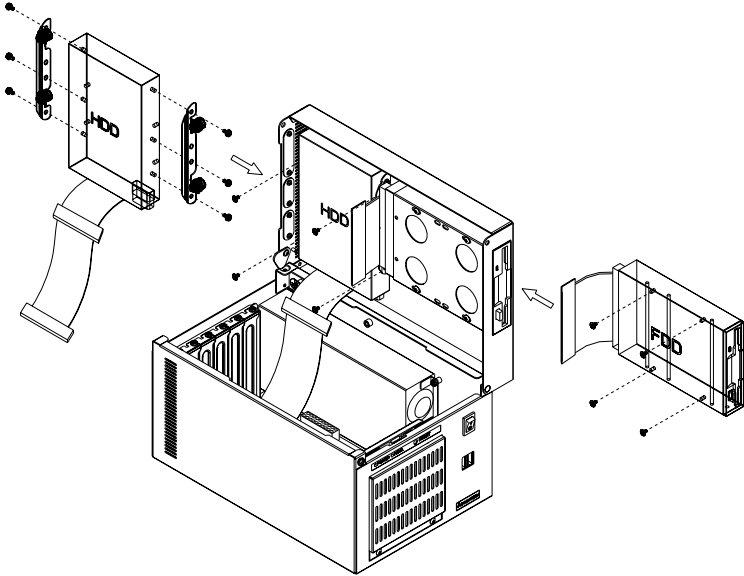

Figure 2.3: Installing drives
IPC-6806S accepts one floppy disk drive, and one internal SATA/ATA HDD. To install the disk drives, refer to Figure 2-3 and proceed as follows:
2. Refer to Figure 2-3, align the holes on each side of the HDD with those of the HDD mounting brackets and fix the HDD with screws.
2. Referring to Figure 2-3, insert a FDD into the drive bay with the base facing inward. Fix the drive with screws.